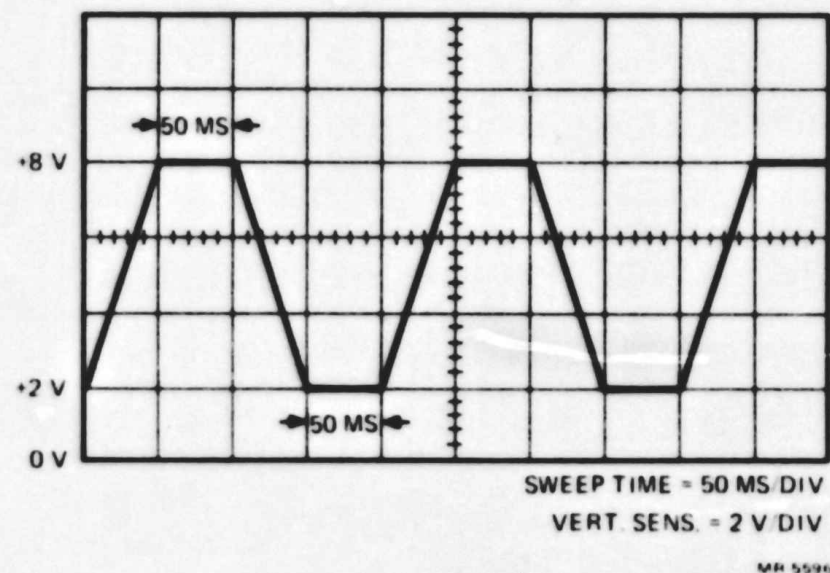

Figure 4-1 Ramp Test Signal at TPX on the A017 Module
- c. Adjust the channel 0 "X" GAIN and OFFSET potentiometers on the A017 module to obtain the signal shown in Figure 4-1.